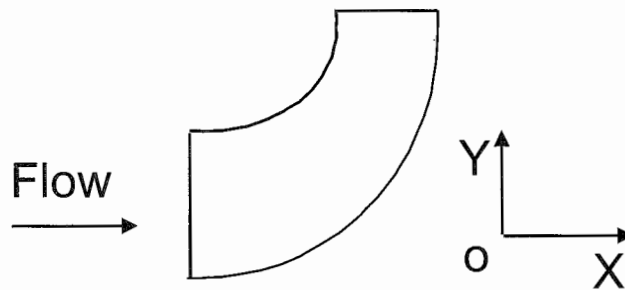

Fig Q9
9. A reducing bend is fitted in a horizontal section of a fresh water system as shown in Fig Q9. It turns the flow through an angle of 90° anticlockwise to the direction of flow.